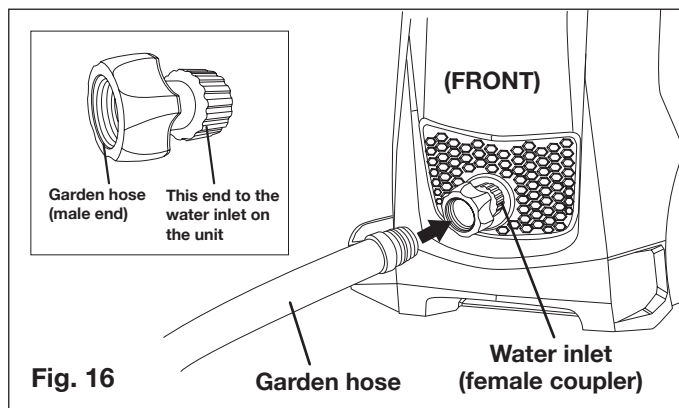

Fig. 16
12. Connect the garden hose adapter (female coupler) to the water inlet of the pressure washer, then thread your garden hose (male end) into the garden hose adapter (Fig. 16). The garden hose must have an internal diameter of at least 13 mm (1/2 in.) and must be reinforced. The water supply must be at least equal to the washer delivery capacity.